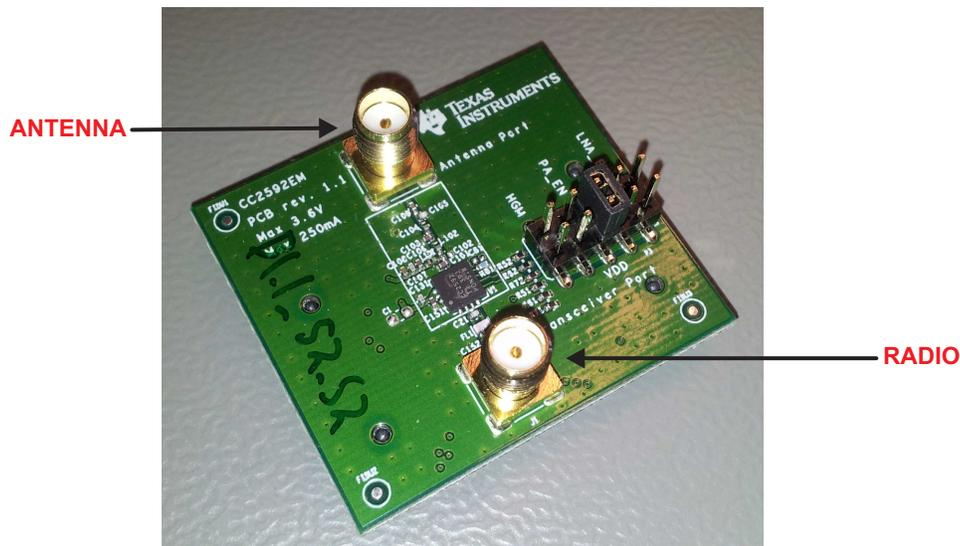

Figure 1. CC2592EM
The CC2592 standalone evaluation module (EM) can be used as a simple add-on to your existing system to improve output power and sensitivity. Use a 50 Ω coaxial cable with SMA connectors to connect the RF signal from the radio to the CC2592EM connector J1 (marked “Transceiver port”). Connect the antenna to connector J2 (marked “Antenna port”). To locate the connectors, see Figure 1.